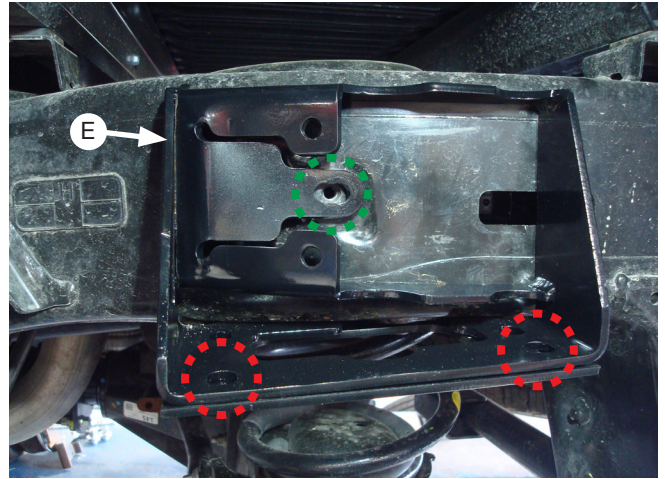

Fig. 9
- The M8 screws from the previous step are almost ready to be tightened down. First, the upper brace is needed to make sure the frame plate is aligned. Place the upper brace (E or F, depending on the side) on top of the frame plate (Fig. 9). Move them around slightly until you get the frame hole aligned (circled in green) and the brace holes aligned with the upper frame holes (C) (circled in red). Once they are aligned, tighten the two M8 screws (P) down to 18 lb.-ft. (24Nm) with a 5mm hex tool. Remove the upper brace (E or F).